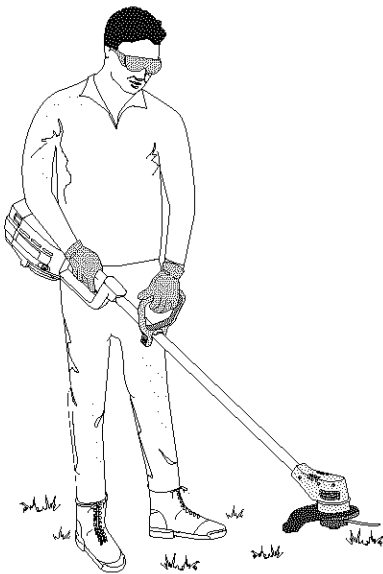

Fig. 2
3. Hold the unit in the operating position. If necessary, reposition the D-handle to the location that provides the best grip (Fig. 2).